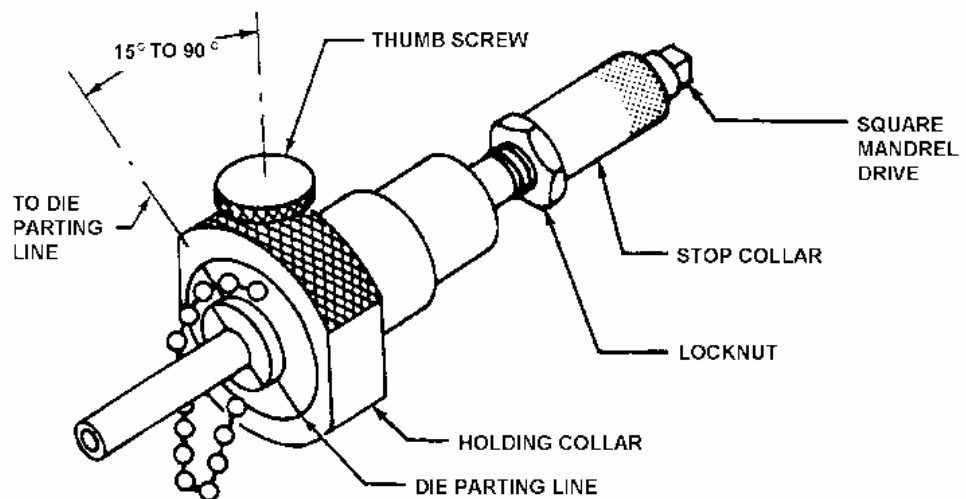

Figure 20. Dynatube Swaging Process
h. Position tube expander-tube fitting assembly in one die set half by placing tube expander lip into groove of die and fitting into die set nest Figure 20.
k. Holding assembled die halves together, slip holding collar over assembly as shown in Figure 20.